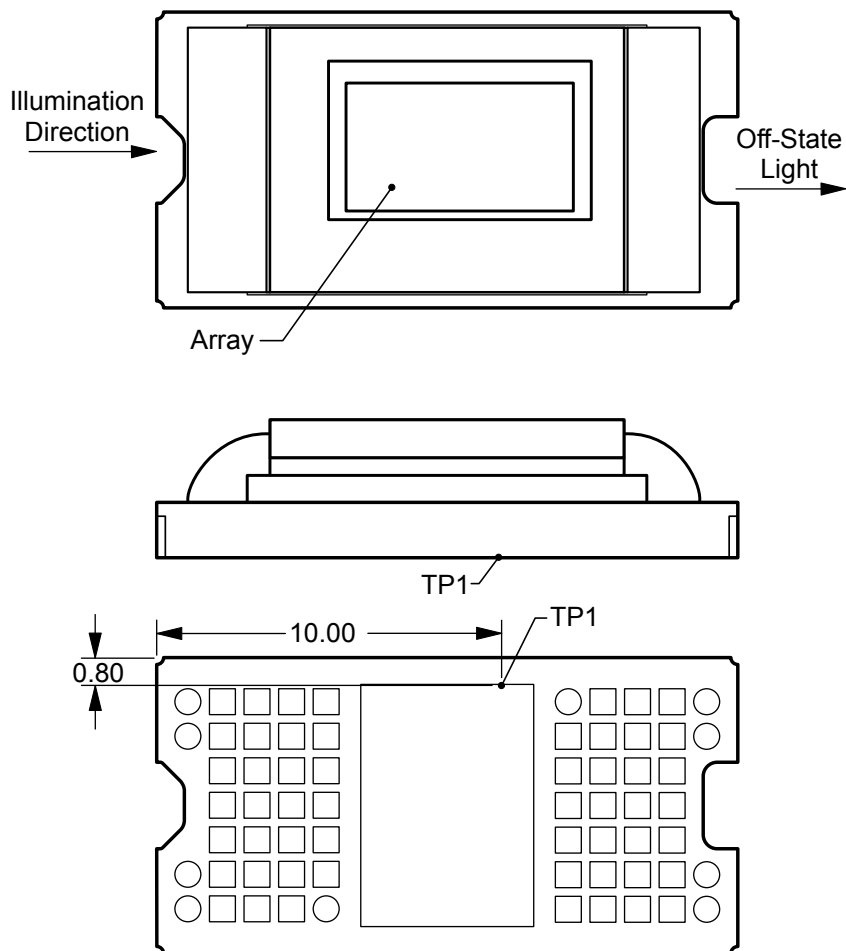

图 7-8. Thermocouple Location
Relationship between array temperature and the reference ceramic temperature (thermocouple location TP1 in 图 7-8) is provided by the following equations.
- T_{CERAMIC} = measured ceramic temperature (TP1 location in 图 7-8) ($^{\circ}\text{C}$)